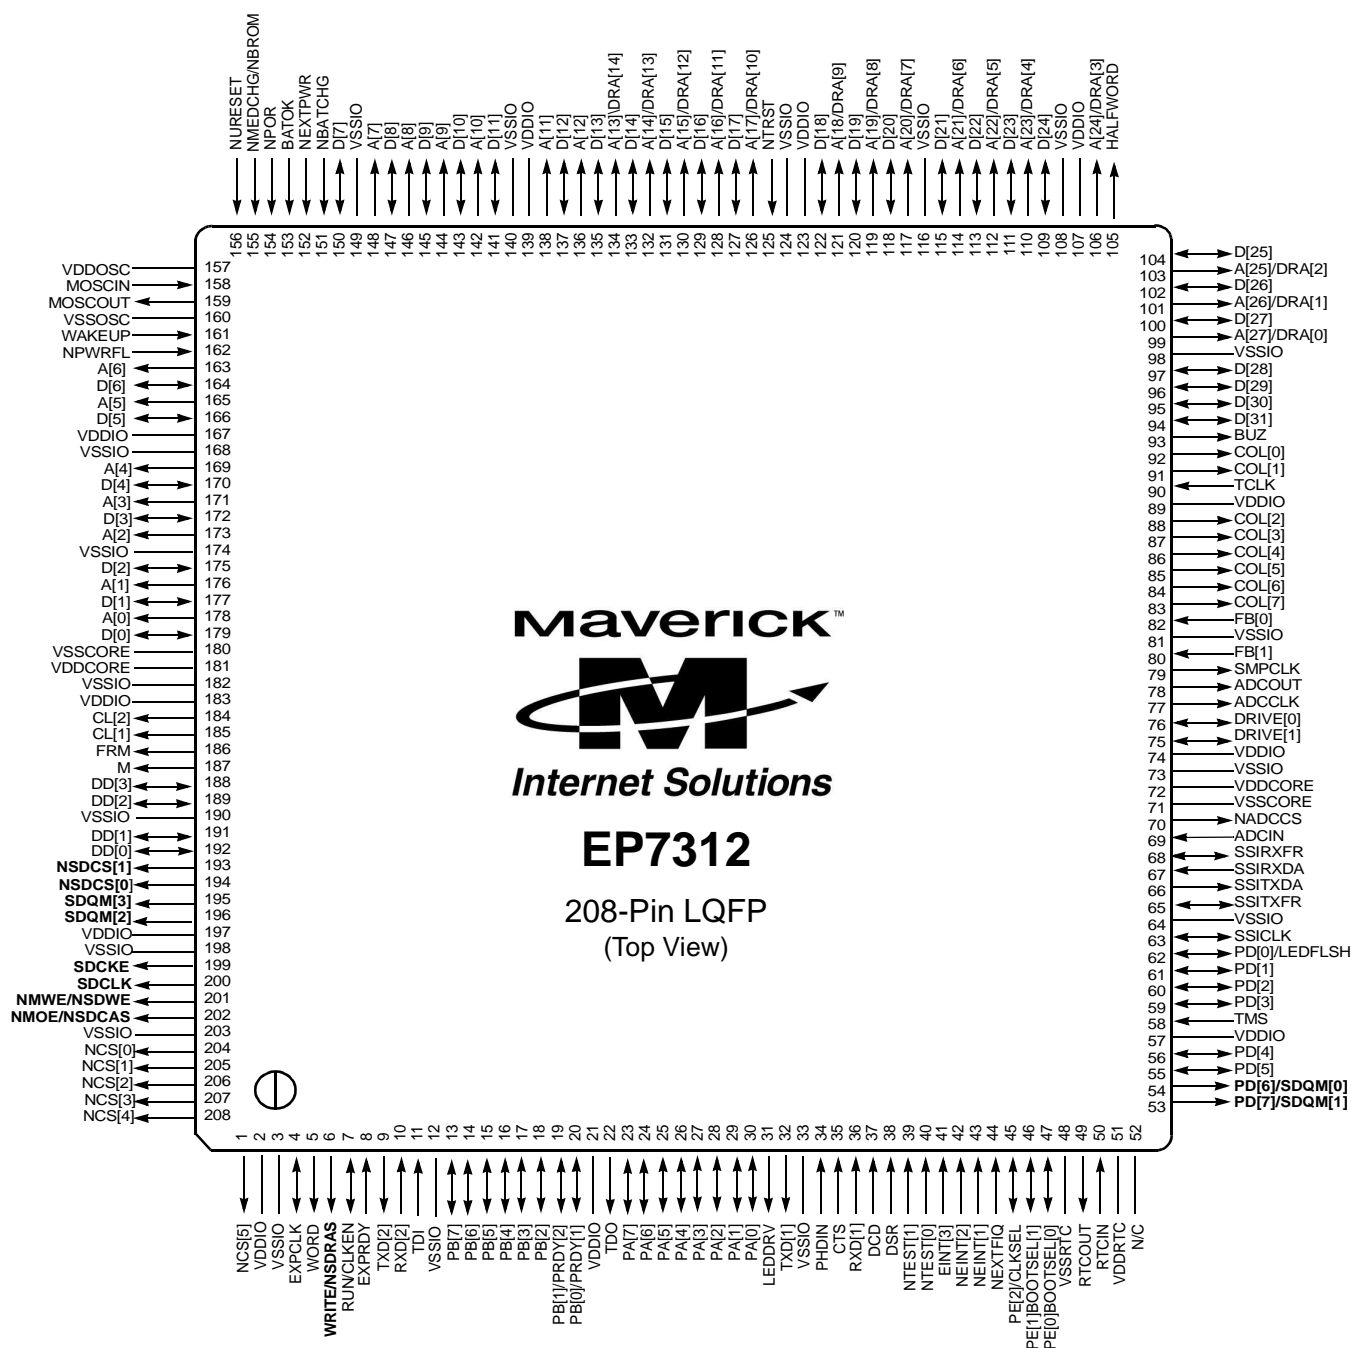

Figure 12. 208-Pin LQFP (Low Profile Quad Flat Pack) Pin Diagram
- 4) For pin locations, please see Figure 12. For pin descriptions see the *EP7312 User's Manual*.